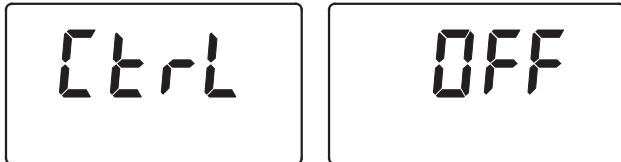

FIG. 37
2. Press the SELECT button several times, until "Ctrl" flashes in the display (See Figure 37).